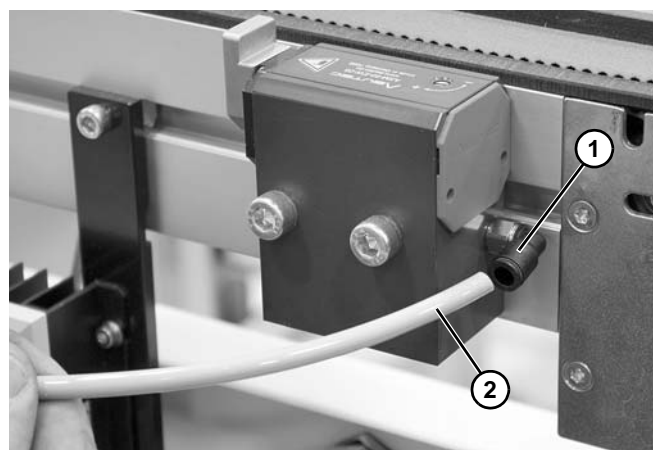

Figure 5
1. Connect the solenoid to the stop. Dorner fittings (**Figure 5, item 1**) accept 1/4" outside diameter tubing standard (**Figure 5, item 2**).